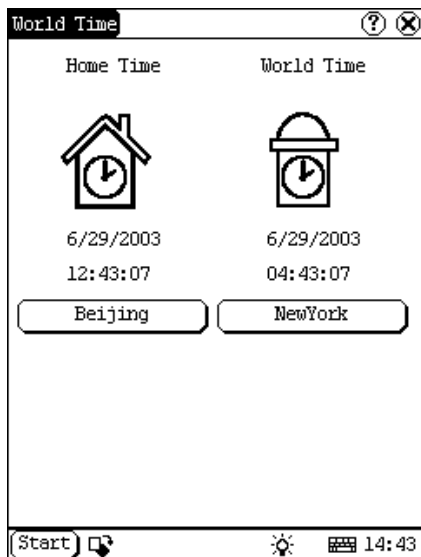

Figure 5-8
- 4) Then you can see the time directly. (See Figure 5-8).